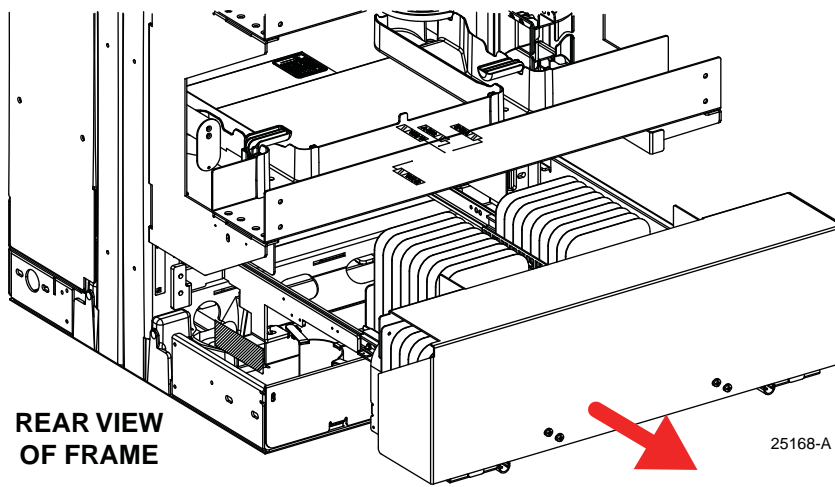

Figure 37. Sliding Out the Splice Chassis
- b. Fully slide out the splice chassis (if present), as shown in Figure 37.